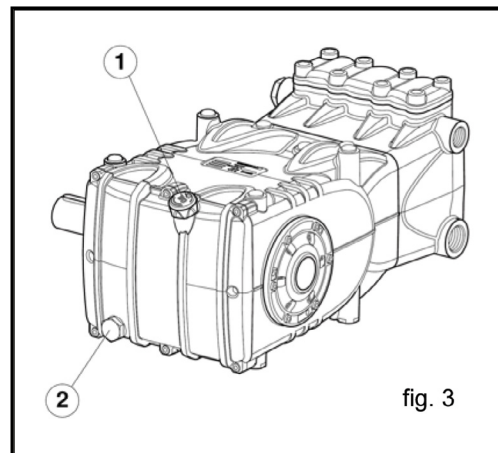

fig. 3
Check the oil level by using the oil level dipstick (1), fig. 3. Refill if necessary to top off level. Correct oil level inspection is done with the pump at room temperature; oil is changed with the pump at working temperature, by removing the oil dipstick (2), fig 3, and then the drain plug (3), fig. 3.
Use a temperature probe in the oil drain plug pos. 2 Fig. 3.